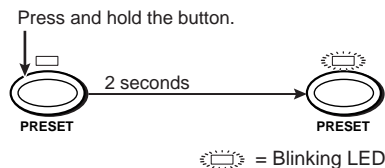

Figure 3-29 — Enter save preset mode
2. Press and **hold** the Preset button for approximately 2 seconds (figure 3-29).